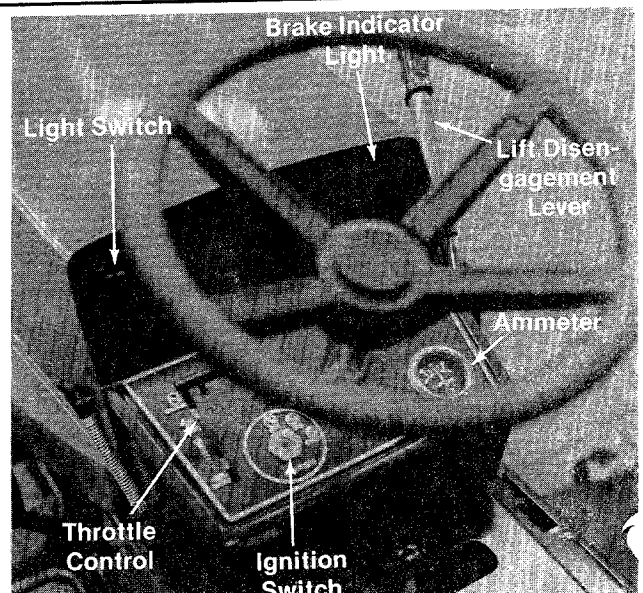

FIGURE 10.
- a. **Throttle Control.** The throttle control is used to regulate the engine speed and choke the engine. The engine should be operated from  $\frac{3}{4}$  to full throttle when operating the cutting deck or snow thrower (optional). See figure 10.
- b. **Gear Shift Lever.** The gear shift lever is used to shift into one of ~~five~~ THREE Forward Gears, "NEUTRAL" or "REVERSE." See figure 10.
- c. **Lift and Disengagement Lever.** It is used to raise the cutting deck. Pulling it all the way back and locking it disengages the blades. The engine will not start unless the lift and disengagement lever is in the disengaged position. See figure 10.
- d. **Electric Start.** See figure 10. Turn the key to the "START" position to start the engine. When the engine is running, let the key return to the "ON" position. To stop the engine, turn the key to the left to the "OFF" position and remove it to prevent accidental starting.
- e. **Light Switch.** Push the light switch in to turn on the lights. The lights will only operate when the engine is running. See figure 10.
- f. **Brake Indicator Light.** The brake indicator light is located on the dash panel. Whenever the starter key is on and the brake pedal is depressed, it will illuminate. See figure 10.
- g. **Ammeter.** The ammeter registers the rate of battery charge or discharge. The ammeter should register on the plus side (+) when the engine is running in the fast position until the battery is completely charged. With a fully charged battery or with the engine idling the ammeter will not show a charge. See figure 10.
- Step 3. Place the lift and disengagement lever in the DISENGAGED position. See figure 10.
- Step 4. Set the throttle control in the "CHOKE" position. See figure 10.
See figure 10. Turn the ignition key to the "START" position. When the engine is running, let the key return to the "ON" position.